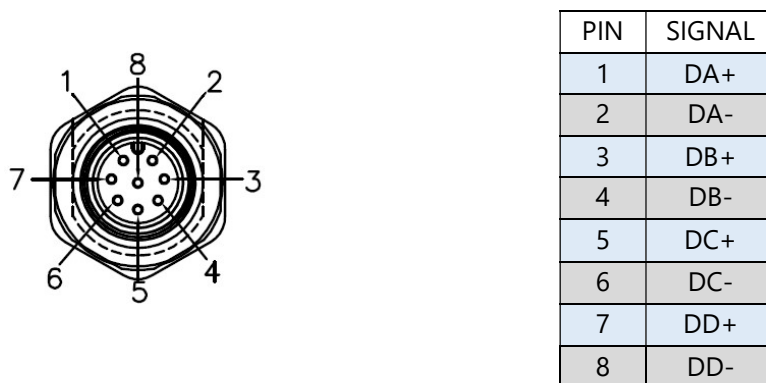

Figure 21 - 8 pin M12 female connector
Atlas Plus is features a gigabit ethernet network accessible via an 8 pin M12 female connector (Figure 16 (9) and Figure 21).